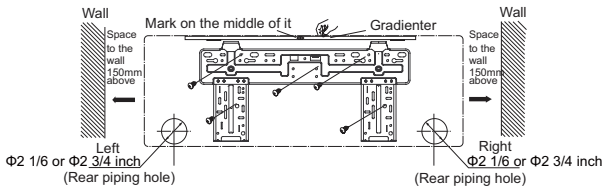

Fig.1
- (1) Choose the position of piping hole according to the direction of outlet pipe. The position of piping hole should be a little lower than the wall-mounted frame. (As shown in Fig. 1)